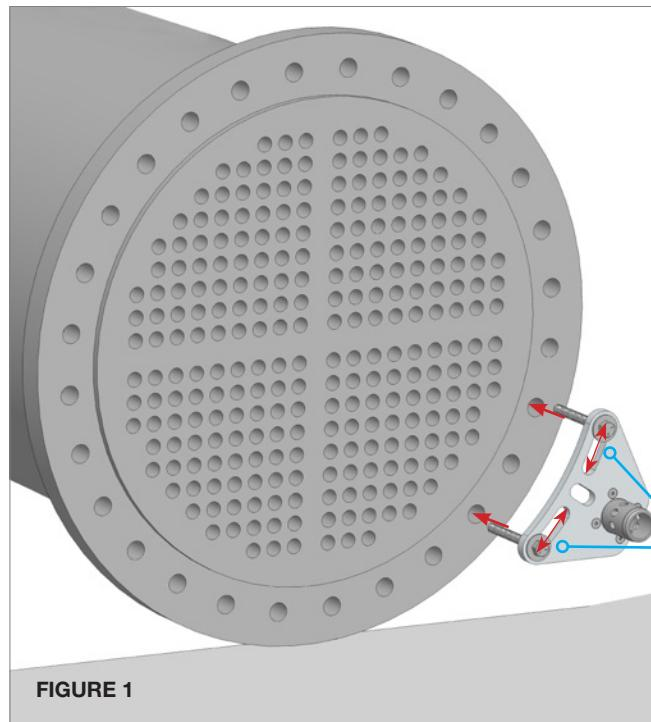
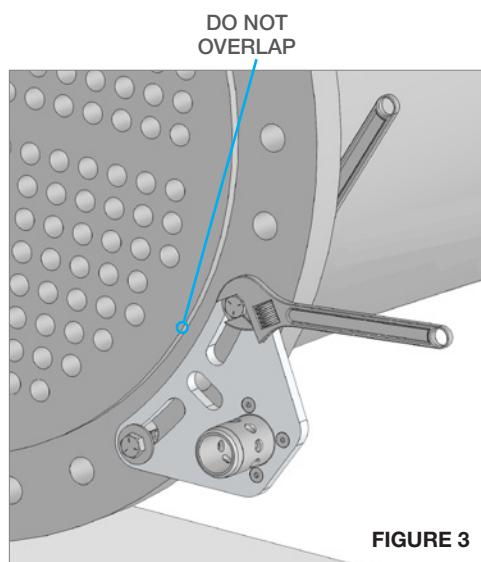

FIGURE 1
FIGURE 3
1. Install the Mounting Bracket onto the tube face. The best location for ease of set-up is in the lower right hand quadrant of the exchanger as shown in **(Figure 1)**. However, the ProPositioner can be mounted in any of the bolt hole positions around the flange. The bracket has three mounting points. The two outside points are adjustable.
2. Insert a 5/8" x 6" Bolt with Flat Washer through each Adjustable Slot on the Mounting Bracket and holes on the exchanger Flange. Install Flat Washers and Hex Nuts on the end of each bolt. **(Figures 1 & 2)**
-  TECH TIP: (2) 5/8" x 6" bolts are provided for convenience, but any bolts smaller than 1" or 25mm in diameter can be used.
3. Be sure the Mounting Bracket Plate sits flat on the flange and does not overlap the ridge of tube face. Fasten in position with two adjustable end wrenches. **(Figure 3)**